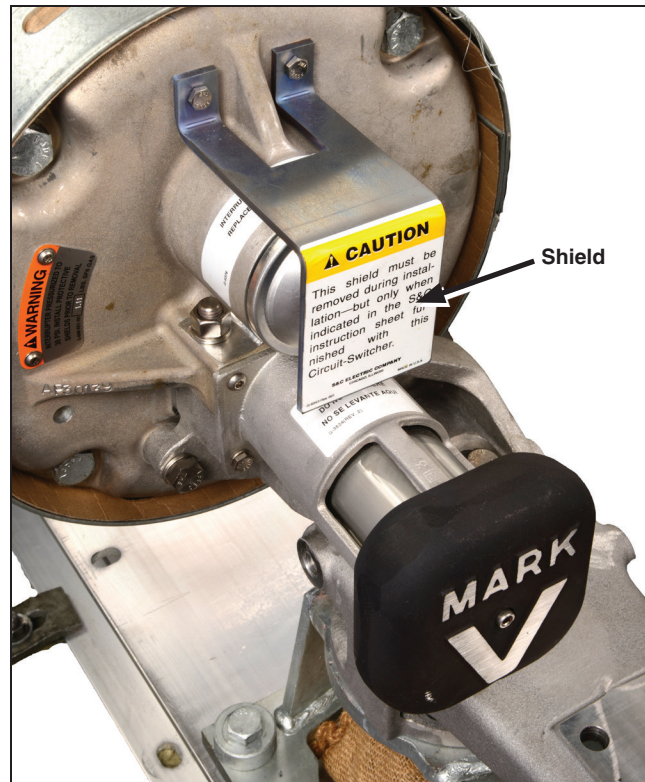

Figure 2. Installing pressure relief shield.
STEP 2. Install the spare pressure-relief shield, furnished with the replacement interrupter (in a separate box), around the pressure-relief device of the interrupter to be replaced. See Figure 2. Secure the shield by tightening the clamp furnished.
- (a) Remove the two container-halves from the shipping crate. One of the container-halves is furnished with a loosely attached $\frac{3}{8}$ -16 \times 2-inch carriage bolt at each end. Position this container-half so the carriage-bolt threads protrude through the holes at the ends of the other container-half as shown in Figure 2.